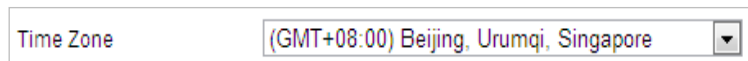

Figure 6-47 Time Zone Settings
- d. From the **Time Zone** dropdown menu as shown in Figure 6-47, select the Time Zone in which the the camera resides.